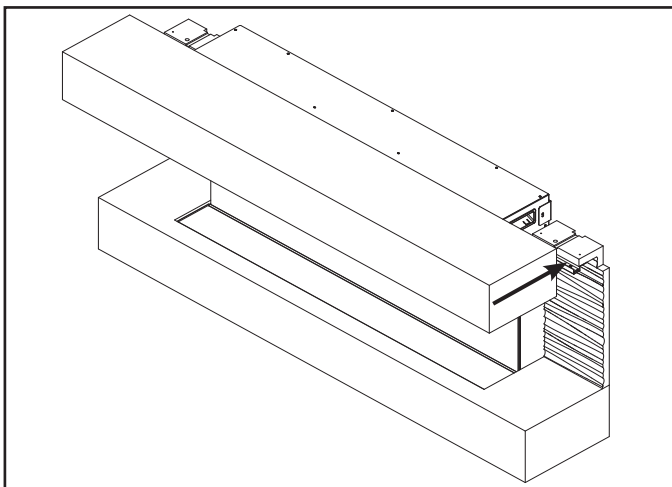

Figure 9
5. Slide the top mantel section onto the appliance. See Figure 9.